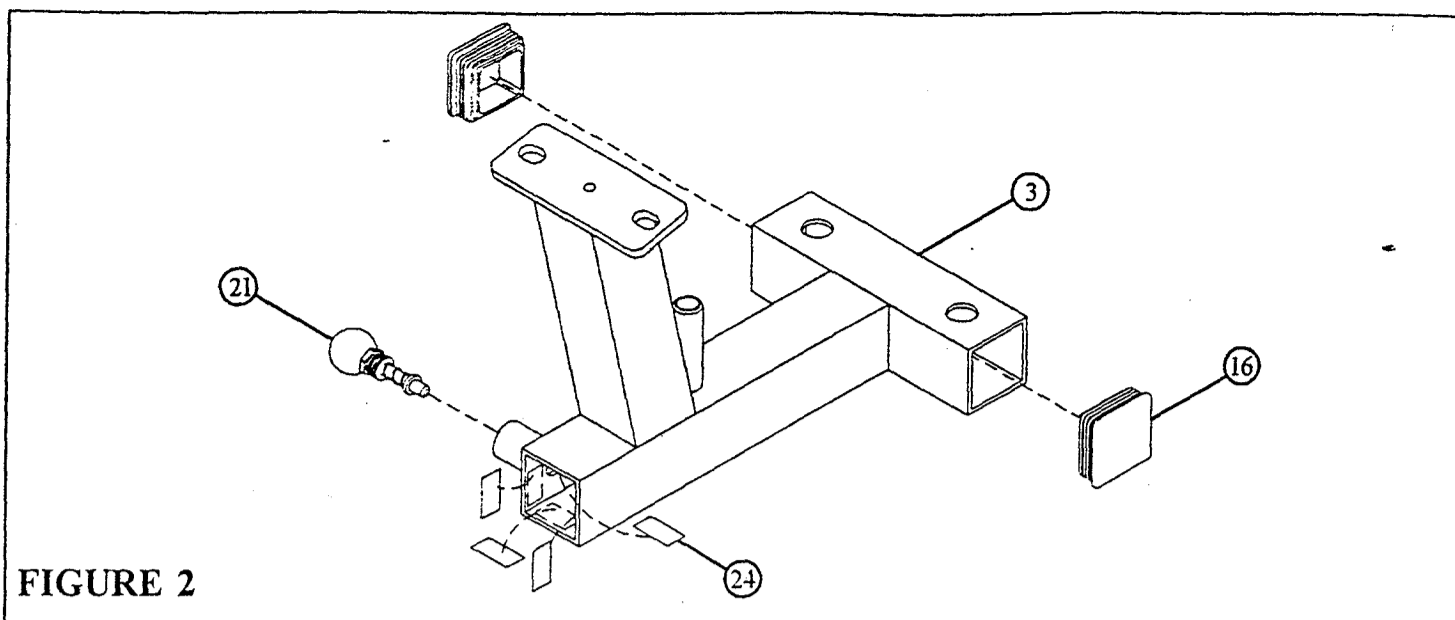

FIGURE 2
- Insert two 2" END CAP (16) into the ends of the STACK BASE (3) as shown in FIGURE 2.
- Attach four 3/4 X 1-1/2" GLIDES (24) to the inside of the tube on the STACK BASE (3) as shown in FIGURE 2 using the following steps:
- Thoroughly clean all surfaces where the 3/4 X 1-1/2" GLIDES (24) are to be attached.
- Remove the 3/4 X 1-1/2" GLIDES (24) from the paper backing and firmly apply them to all shown surfaces.
- SECURELY assemble one SPRING PIN ASSEMBLY (21) to the spring pin barrel on the STACK BASE (3). See FIGURE 2.